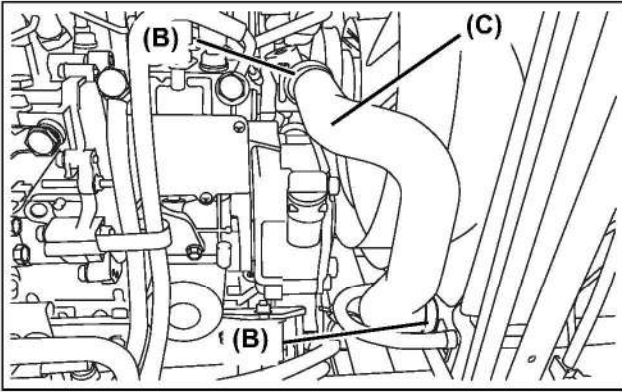

Fig 14-9
6. Check the upper and the lower radiator hoses (Fig 14-9, A-C) for any damages and cracks.
8. Check for loosen hose clamps (Fig 14-9, B).